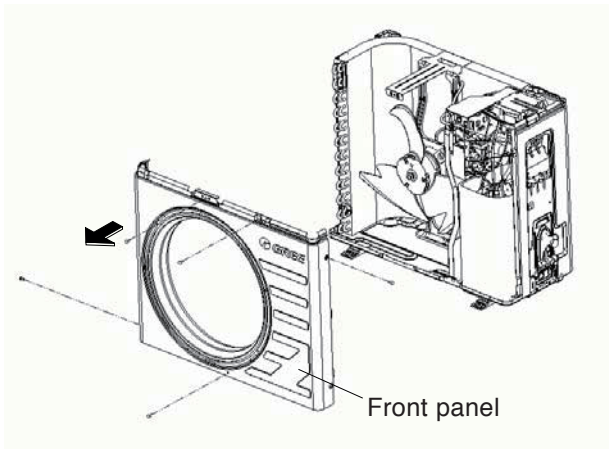

Fig. 55
(3) Loosen the 5 screws of front panel. (Fig.55)